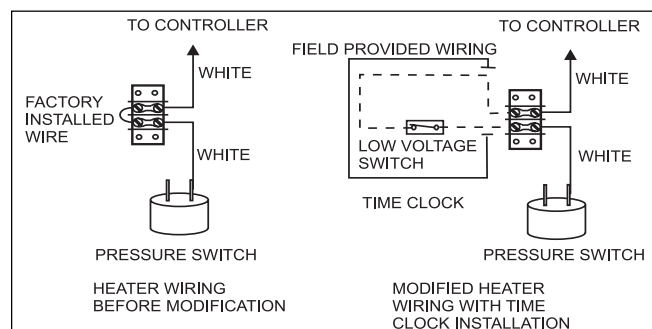

Figure 22. Typical Time Clock Wiring
5. Connect the low voltage wires from the time clock auxiliary switch to the two terminals. Use American Wire Gauge (AWG) No. 14 gauge stranded copper wire with a temperature rating of 221°F (105°C) or greater (see Figure 22).